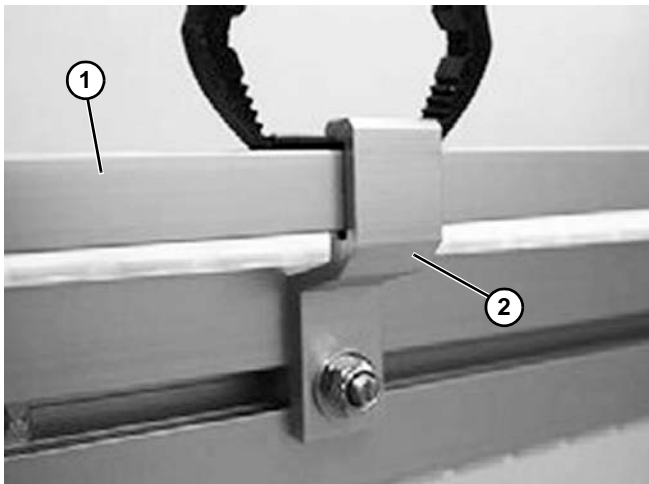

Figure 97
2. Attach the guide rail (**Figure 97, item 1**) to the bracket (**Figure 97, item 2**). Clamp the spring pin into the slot between bracket and guide rail to the fixed position.